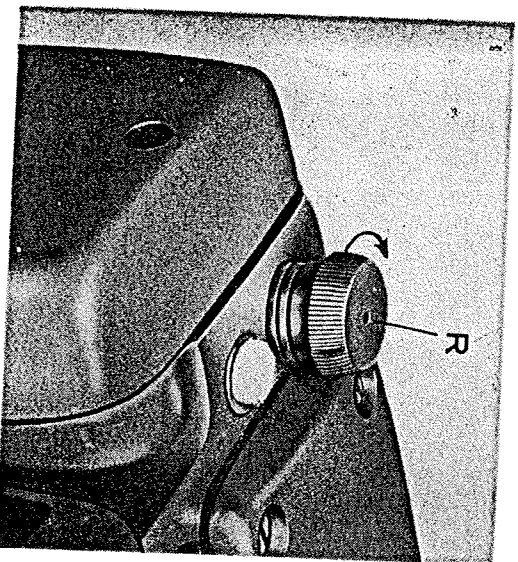

Fig. 9
The pressure of the presser foot on the material is regulated by the Regulator Screw (R) (Fig. 9) on top of the machine. Turn this regulator to the left to decrease it. Do not employ more foot pressure than is required to feed the material properly.